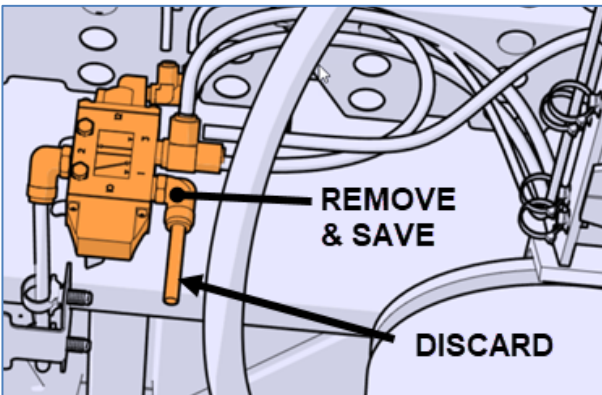

Figure 10
11) Discard the exhaust tube. Remove the elbow shown and save for later use (Figure 10).